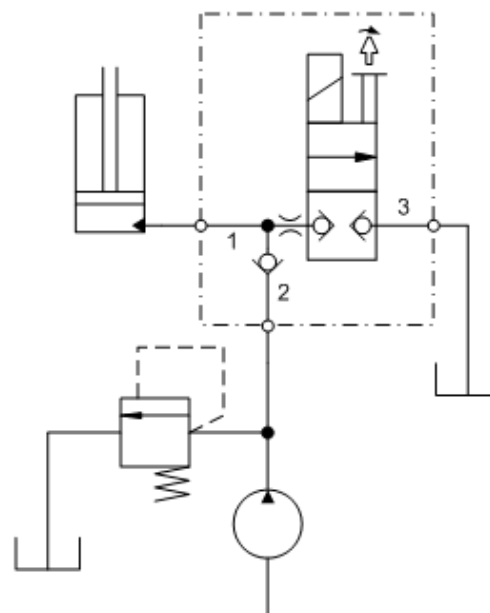

Figure 5.
- This valve can be used in a circuit with a single acting cylinder to control motion and provide load holding. (See Figure 5.)